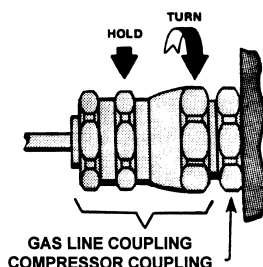

Figure 10 Connect a Gas Line to the Compressor or Cryopump
5. Connect the supply gas line to the supply coupling on the compressor or to the supply gas manifold. Use two wrenches to tighten the coupling. See Figure 10.
8. Connect the return gas line to the return coupling on the cryopump. Torque the coupling to 4.85 ± 0.7 kgf m (35 ± 5 ft. lbs.). See Figure 10.